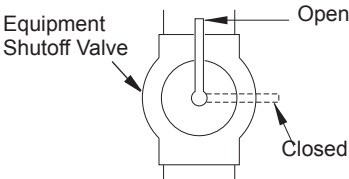

Figure 16 - Equipment Shutoff Valve
1. Close equipment shutoff valve (see Figure 16).
1. Open equipment shutoff valve (see Figure 16, page 17).